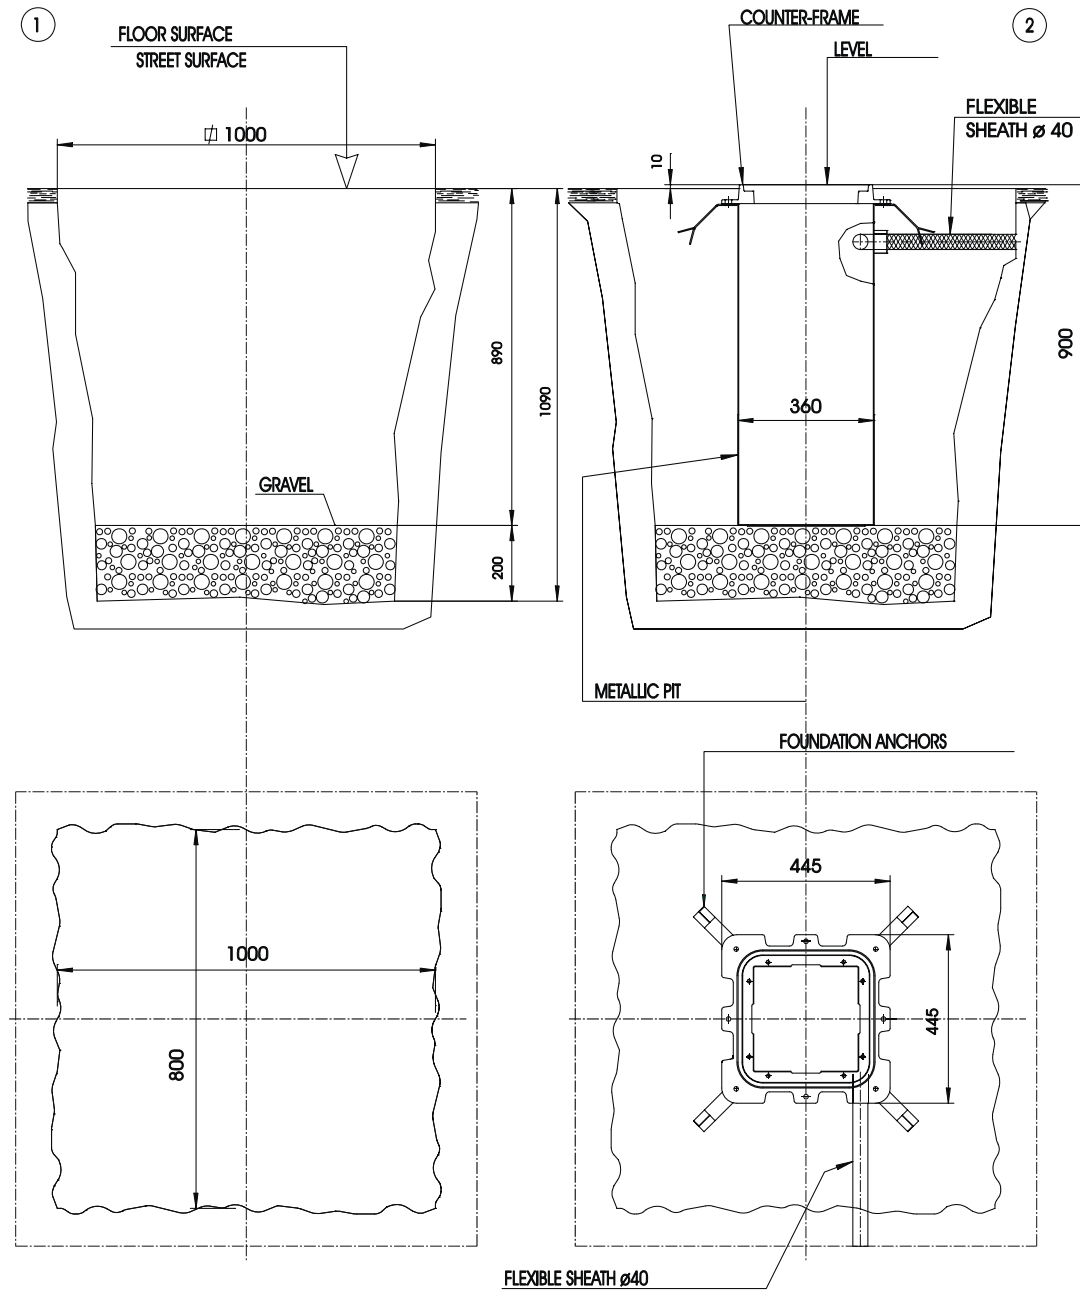

Fig. 1
4) Introduce gravel (grain with a diameter of approx. 8 - 20 mm.) to obtain a thickness of about **20/30 cm.** (see Fig. 1), taking care to compact it well to avoid "future settlements".